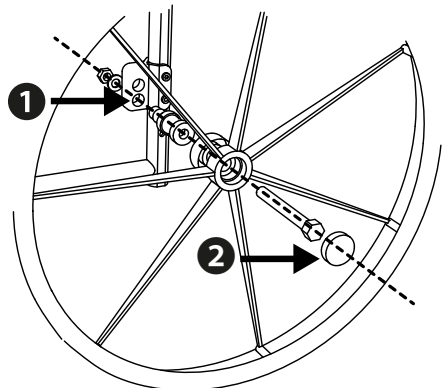

Fig.3
2. Mount the drive wheels with the axle from the outside to the inside in the lower drill hole of the rear wheel adapter plate (1, Fig. 3).
3. Finally screw the cover caps back onto the quick-release axle (2, Fig. 3).
2. The frame tubes are firmly screwed together using the star grip screws provided (2, Fig. 3).